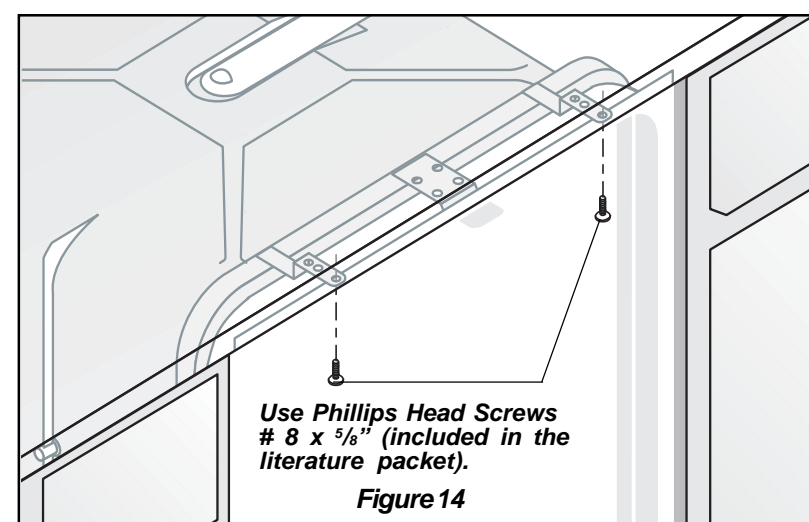

Figure 14
- Adjust levelers (see Step 5) so mounting brackets touch underside of countertop. **IMPORTANT: Dishwasher must rest on floor—do not hang from countertop.** See **Figure 14**.